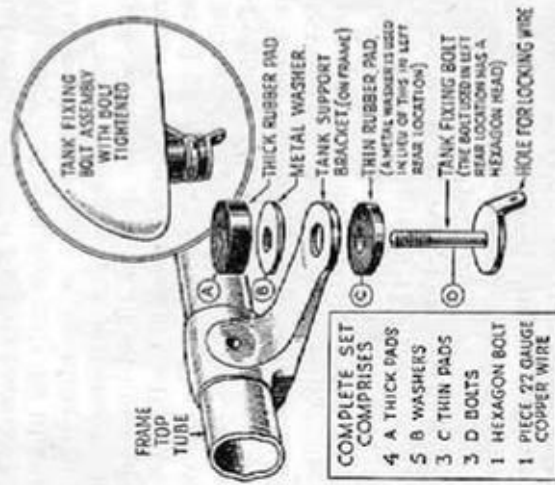

Fig. 57. FUEL TANK FIXING BOLT ARRANGEMENT (1945-8)
1. Remove Fuel Tank. It is necessary to remove the fuel tank before detaching the rocker-box and cylinder head prior to decarbonizing, also when undertaking any major engine overhaul work. To remove the tank, turn both petrol taps to the "Off" position. Disconnect petrol pipe from both taps, using two spanners (hold taps when unscrewing nuts). Then sever the locking wires securing the four tank-fixing bolts (see Fig. 57). Now unscrew the four fixing bolts and ease the tank clear of the frame.
22. Replace Fuel Tank. The fuel tank is secured to the frame by four fixing bolts and a number of rubber pads and metal washers. Details of a fixing bolt assembly are shown in Fig. 57, and the correct assembly order should be carefully noted.